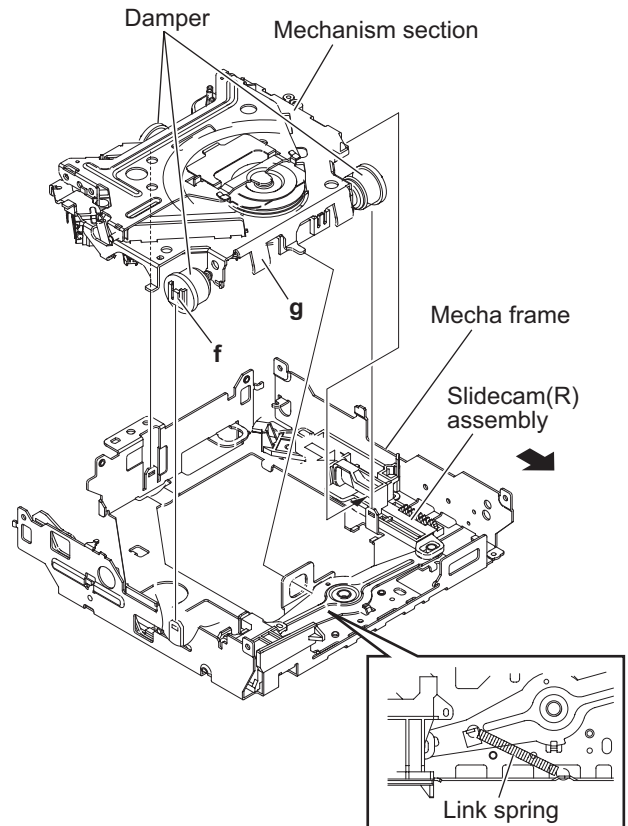

Fig.10
- (4) Remove the link spring on the top side of the mecha frame. (See Fig.10.)
- (5) Release section **f** of the three dampers from the mecha frame. (See Fig.10.)
- (6) Move the slide cam (R) assembly in the direction of the arrow, and then take out the mechanism section in an upward direction. (See Fig.10.)
When attaching the mechanism section, apply grease to the section **g**. (See Fig.10.)